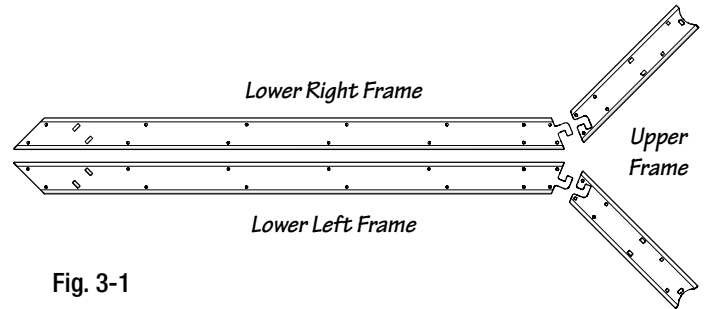

Fig. 3-1
- Locate the two upper and lower frames from the kit. Lay the frames on a hard surface, following the orientation shown in Fig. 3-1.